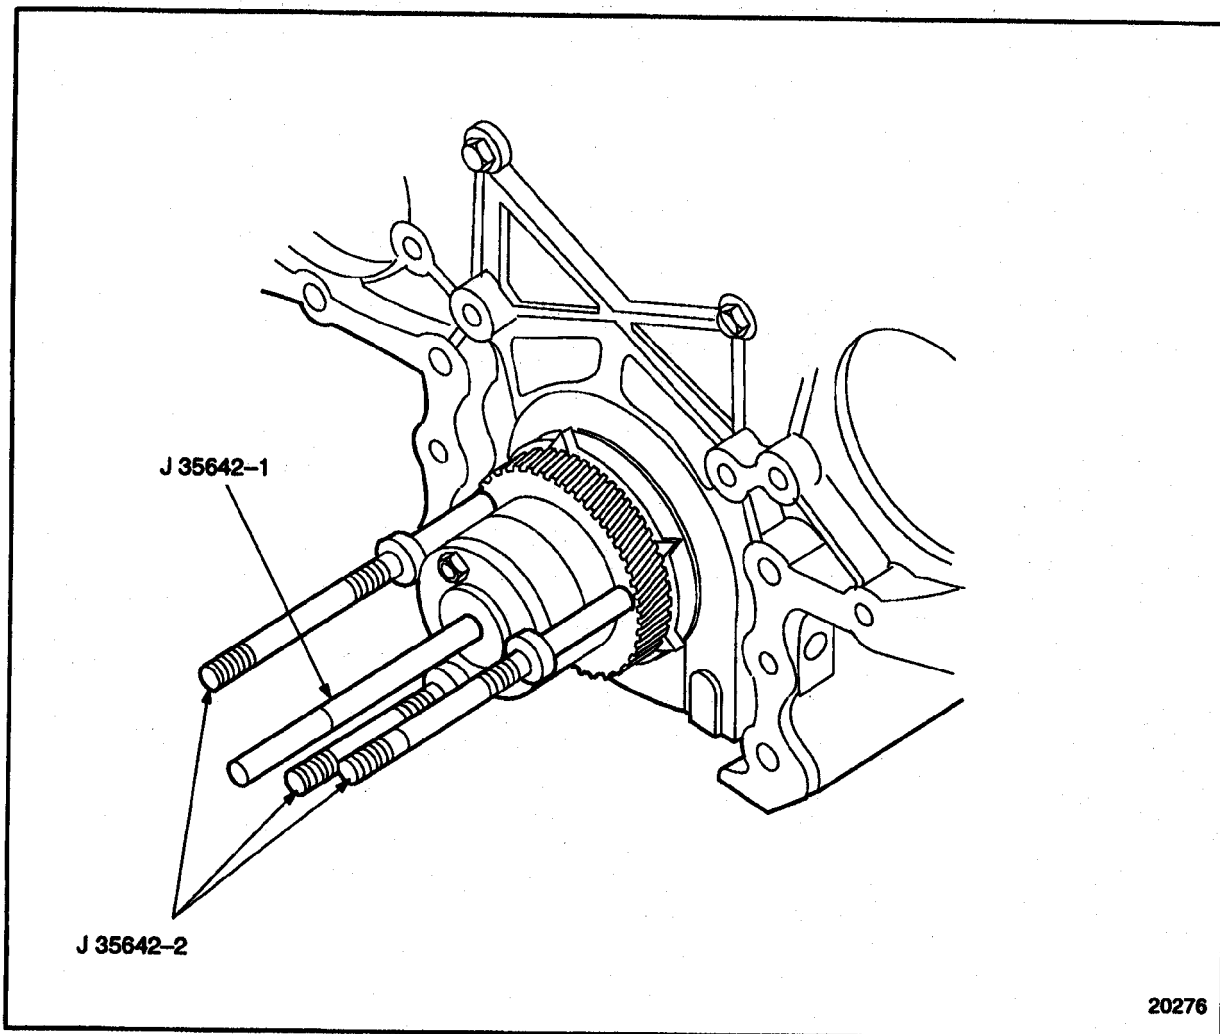

Figure 1-395 Puller and Leg Installation
6. Install the three guide studs, J 35642-2 part of J 35642 to the threaded holes in the crankshaft timing gear. Tighten the three legs, but do not torque. See Figure 1-395.